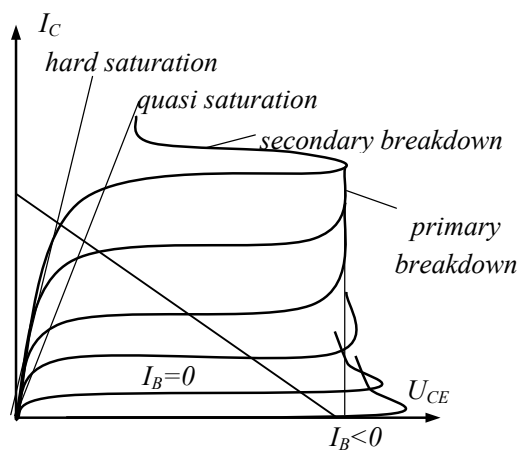

Fig. 1.31
**Output characteristics.** The output characteristics of a typical *npn* power transistor are shown in Fig. 1.31. The curves are given for the different base currents. The differences between power transistors and low-current transistors, shown in Fig. 1.31, are the regions labeled as a *primary breakdown* and a *secondary breakdown* as well as a *quasi saturation* on the power transistor characteristics. The small-signal transistors have no such regions. The operation of a power bipolar transistor in the primary and secondary breakdown regions should be avoided because of simultaneous high voltage and current and large power dissipation within the semiconductor. The difference of these breakdowns is that after the primary breakdown, the transistor can operate but the secondary breakdown destroys the transistor. As a result, a narrow *safe operating area* is the remarkable disadvantage of the transistor.